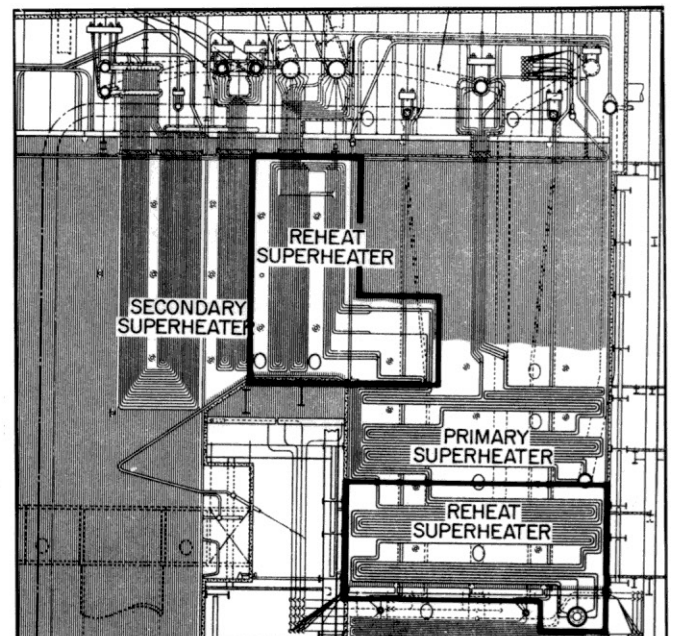

Figure 2 Typical location.
1. Visually inspect and ultrasonic test (UT) as much of the horizontal portion and bottoms of pendant loops of reheater tubes as possible by scanning (see Figure 2). Due to space limitations and access problems, it often is not possible to accomplish detailed inspections, or to obtain UT readings of other than the leading or trailing tubes in each bank. Radiography of suspect areas is sometimes effective in indicating major corrosion damage. Cutting suspect tubes for an internal visual inspection and remote instrument analysis is more accurate.